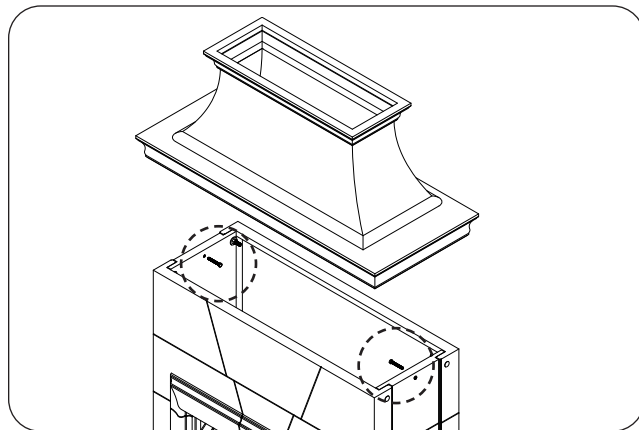
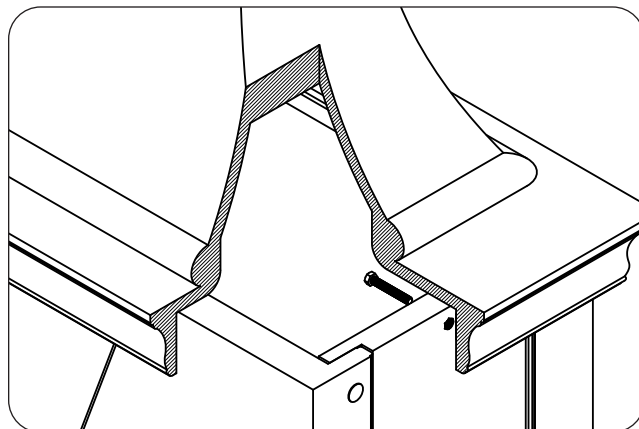

Fig. 27-2 Assemble chimney
Fig. 27-3 Bolt detail
1. Place the chimney piece on top of the body piece. See Fig. 27-2.
2. The left and right sides of the body interior each have a pre-installed bolt for securing the chimney. Reach up through the body and tighten the two bolts using a 9/16" open end wrench (or equivalent). See Fig. 27-2 and Fig. 27-3.